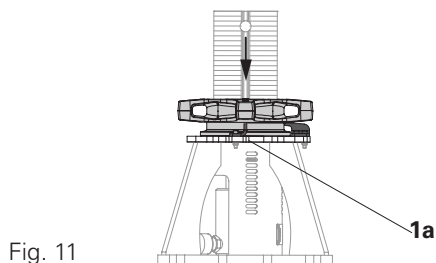

Fig. 11
4. Turn adjusting nut (4) downwards in a clockwise direction by hand until the adjusting nut (4) rests on the plate (1a). (Fig. 11)